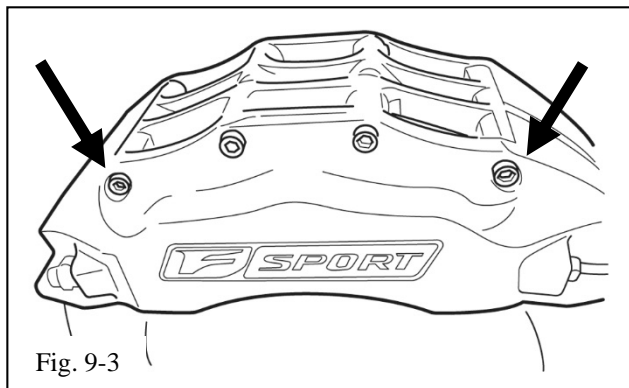

Fig. 9-3
- (e) With the caliper on a padded work bench, using an M5 Allen wrench back out the 2 outer bridge bolts 3 turns (Fig 9-3). Then turn the caliper over and remove the foam insert from between the brake pads.